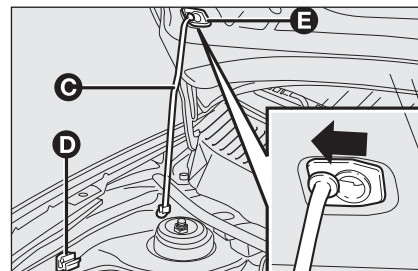

fig. 83
- ☐ lift the bonnet and at the same time release the rod **C**-**fig. 83** from the catch **D**-**fig. 83**, then fit the rod end into the bonnet recess **E**-**fig. 83** (wide hole) and then press down to safety position (small hole), as shown in the figure.
- ☐ hold the bonnet up with one hand and with the other remove rod **C**-**fig. 83** from recess **D**, with reverse movement with respect to opening, and fit it back into its catch;